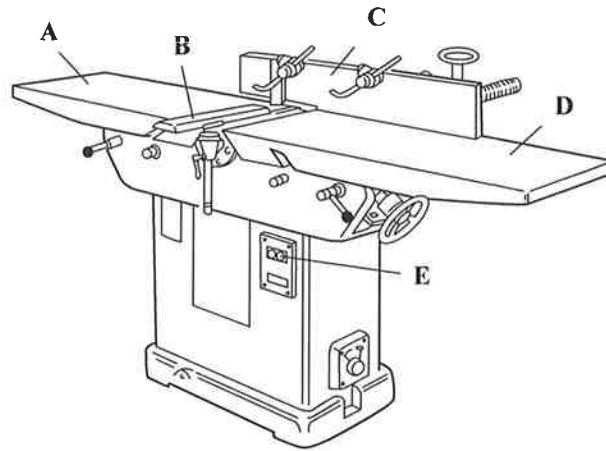

Figure 3. Pictorial view of a stationary jointer
5. Figure 3 shows a pictorial view of a stationary jointer.
- (a) Name any FOUR of the parts labelled A, B, C, D and E in Figure 3. **(4 marks)**